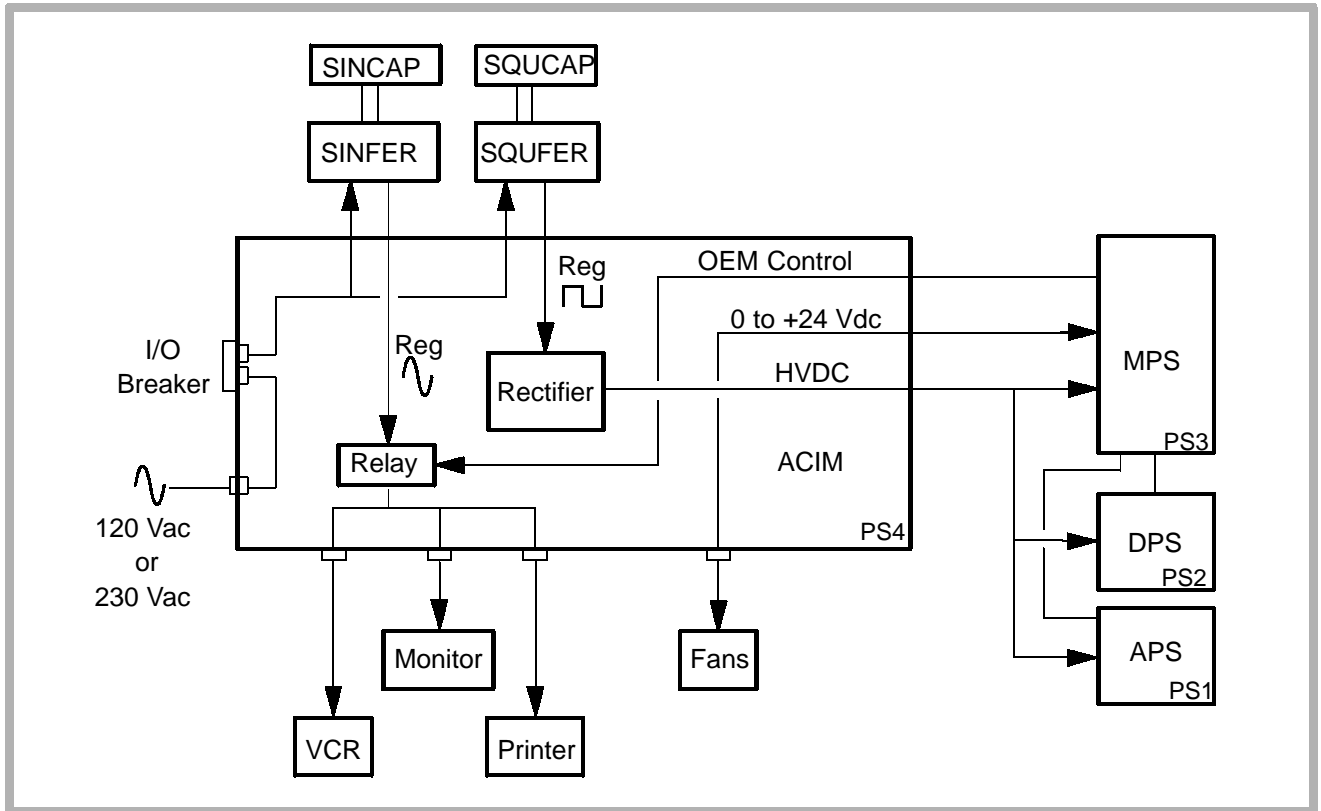

Figure 4-3. ACIM Module
- Provides HVDC to MPS, DPS, and APS (Figure 4-3)